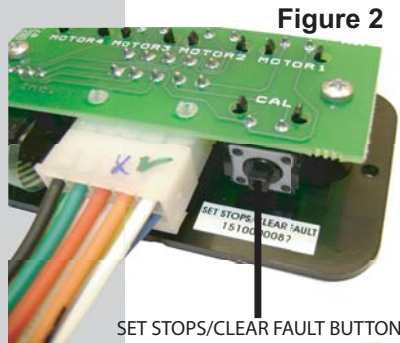

Figure 2
- MAJOR faults must be cleared by pushing the Set Stops/Clear Faults button located on the back of the wall touchpad (Fig 2). This is done to alert the user that there is a major problem with the system and to prevent damage to the slideout room. **Note:** For major faults, the control must be overridden by following the Emergency Retract Mode in the Override Modes section of this manual, and the control must then be programmed by an authorized dealer when the problem is fixed
3. Press and hold the "Set Stops/Clear Fault" button on the back of the wall touchpad for 5 seconds (Figure 2). Both LED's will light while the button is held down. (Figure 1)